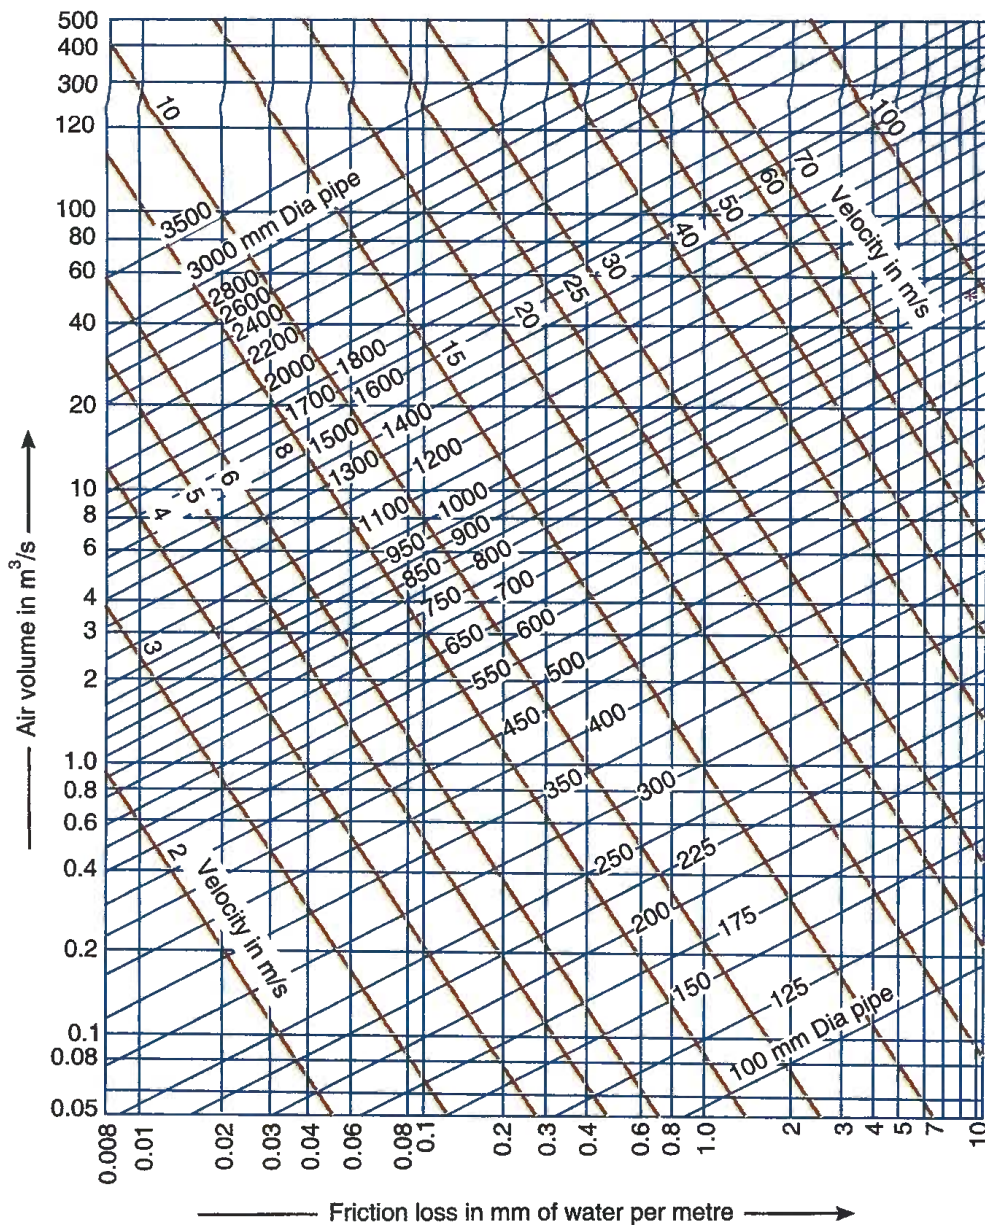

Fig. 20.10. Friction chart for circular ducts.
The frictional pressure loss for circular ducts (in mm of water) for various velocities (in m/s) and duct diameters (in mm) may be obtained directly from the friction chart as shown in Fig. 20.10. In these charts, the vertical ordinates represent volume flow rate of air ( $Q$ ) in m3/s and the horizontal ordinates represent frictional pressure loss in mm of water per unit length of the circular duct (*i.e.*  $p_f/L$ ). These charts are valid for 20°C and 1.013 bar and clean galvanised iron ducts with joints and seams having good commercial practice.
**3.** The friction chart, as shown in Fig. 20.10, may be used to determine the pressure loss in rectangular ducts if the equivalent diameter of a circular duct for the rectangular duct is obtained first as discussed in Art. 20.12.